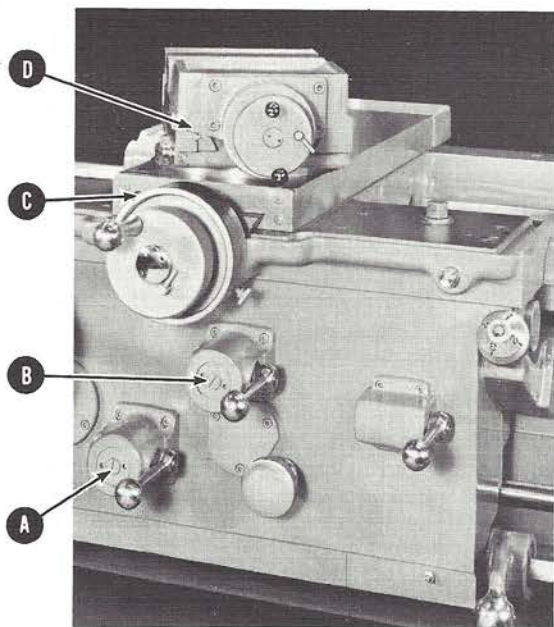

FIGURE 12 APRON AND SLIDE ADJUSTMENT SCREWS
The longitudinal feed friction clutch is adjusted by turning screw (A), Figure 12, either in or out so the lever is moderately tight about half-way down toward the apron from the neutral position shown. The cross feed friction clutch is similarly adjusted by means of screw (B).